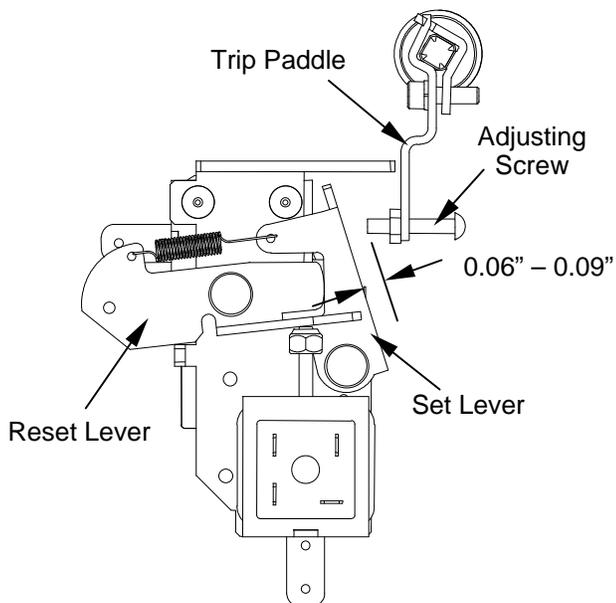

Figure 69. Trip paddle and set lever gap calibration. (Breaker charged. NI module shown in RESET position.)
4. Ensure the Network Interlock is in the RESET state (shown in Figure 69) by manually rotating the reset lever counterclockwise. If the Network Interlock was SET, this operation will cause the set lever to retract away from the trip paddle.
5. With the breaker open, charge the breaker closing springs. Do not close the breaker. Adjust the gap between the Network Interlock set lever and paddle by rotating the adjusting screw as shown in Figure 69. The distance between the set lever and the trip paddle must be between 0.060 and 0.090 inch.
9. Pull the manual reset knob. Check that the Network Interlock has returned to the RESET state, as shown in Figure 69.